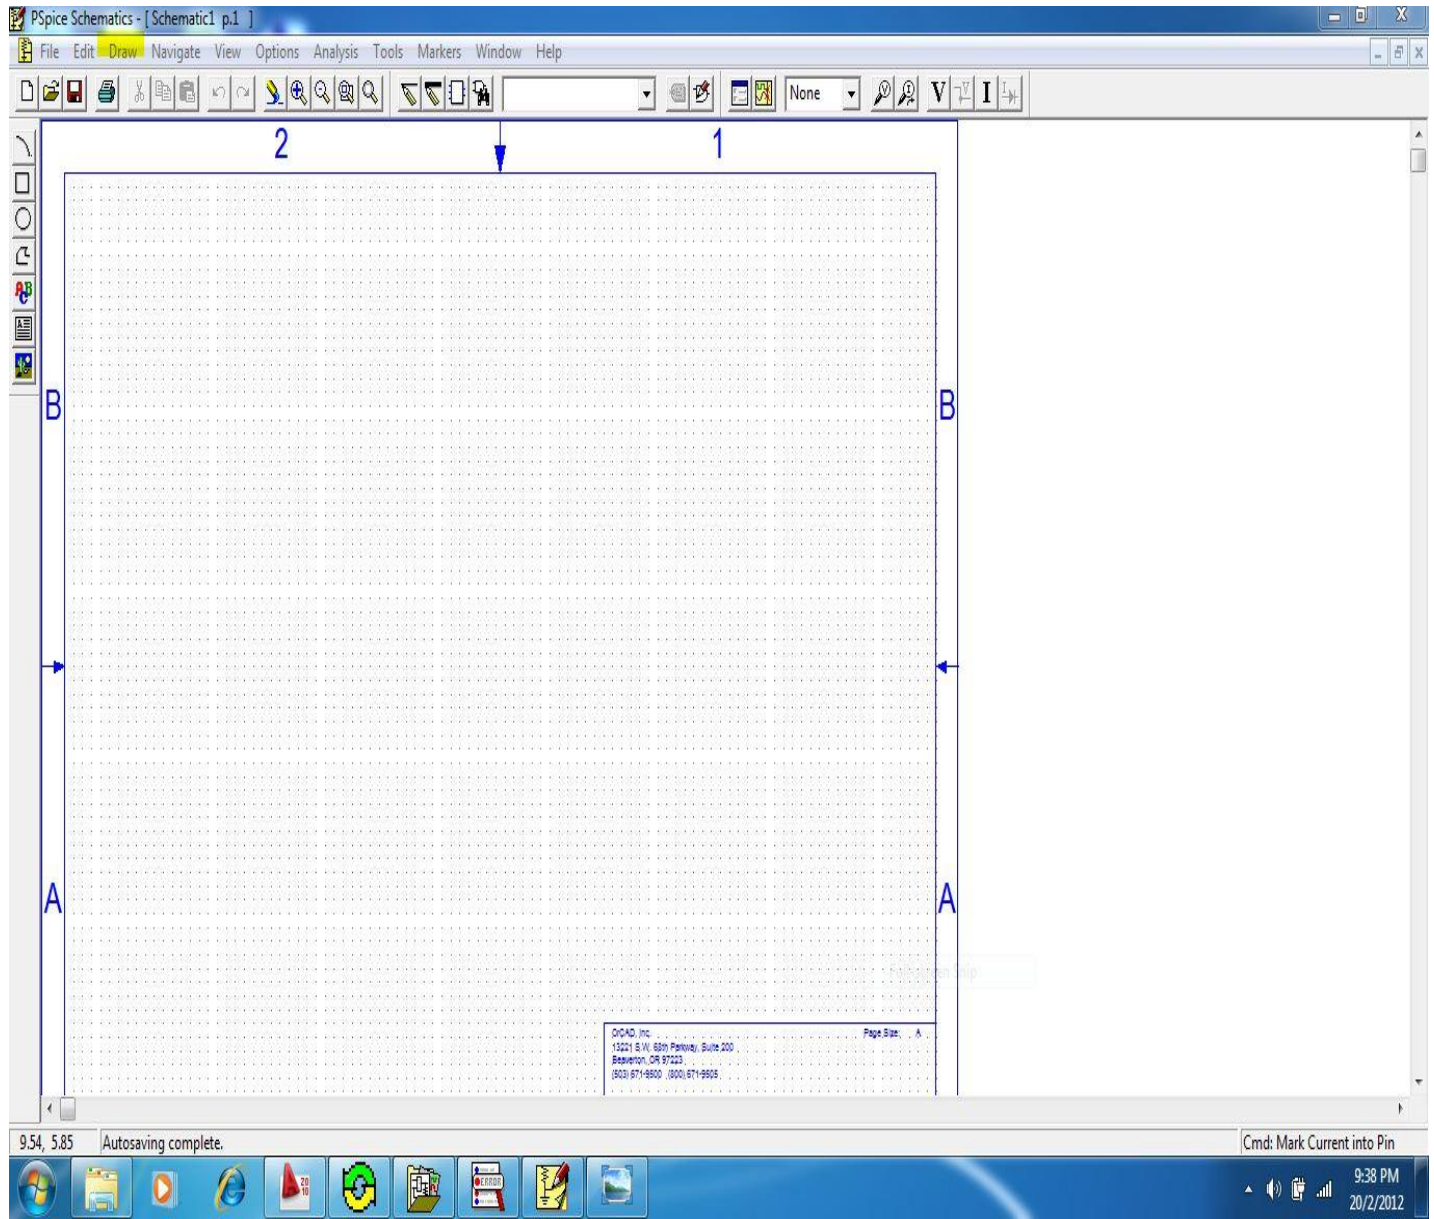

Figure-2
5. The Figure-2 shows **Draw** as highlighted by yellow color the **Draw** contains circuit drawing tools on the screen, we can select **wire** to draw a wire, **place part** to place a resistor or some other part on the screen and the **Text box** is used to write a text on screen and many other tools are available, which can be used as when required.